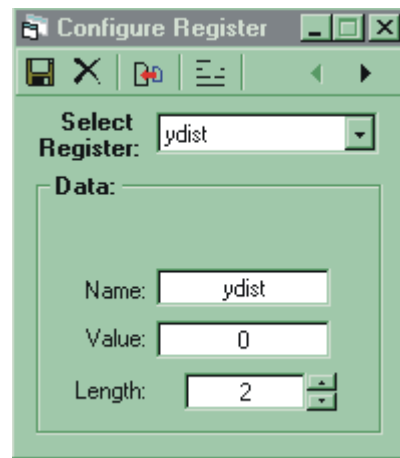

Figure 4.33: Screen 1 Y Distance Register Setup
- 2] In the Configure Register dialog (figure 4.33), type “ydist” in the “Name” box.